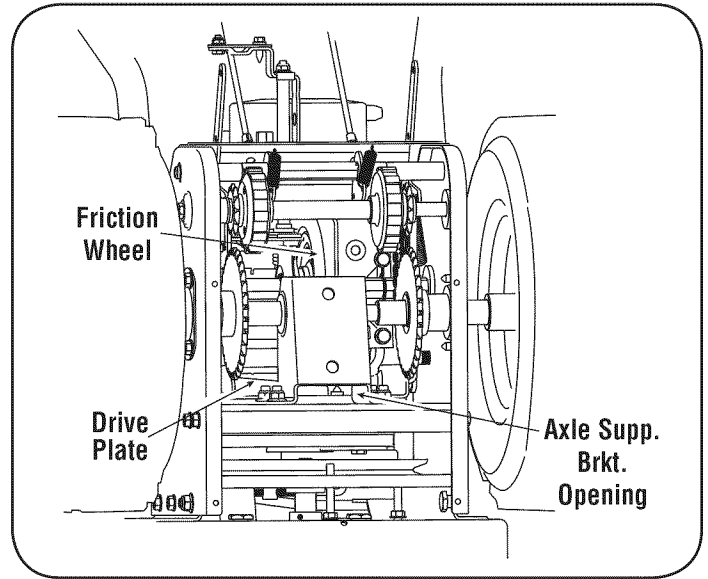

Figure 21
2. Locate the opening between the axle support bracket and the front frame support (See Figure 21). Looking through this opening, with the wheel drive control released, there must be clearance between the friction wheel and the drive plate in all positions of the shift lever.
3. With the wheel drive control engaged, the friction wheel must contact the drive plate. See Figure 21.